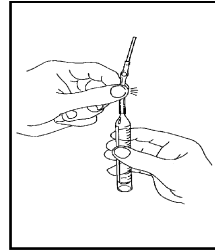

Figure 2
10. Gently snap the tip of the ampoule at the score mark (fig 2).